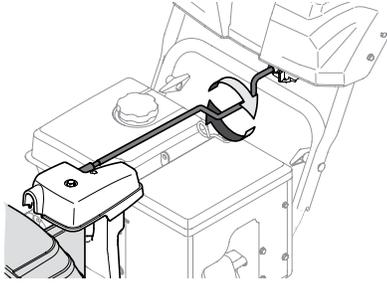

Figure 3-11
4. Grasp indented portion of chute control rod and manually rotate chute assembly to the right or to the left. See Figure 3-11.